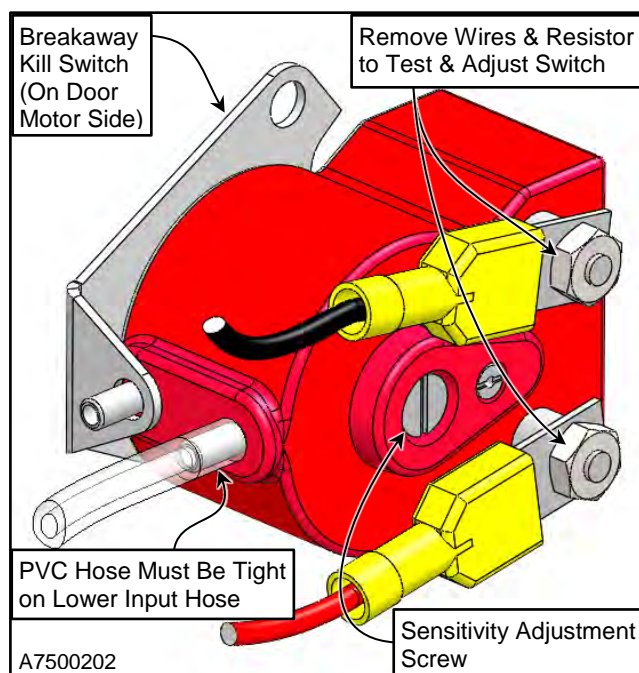

Figure 43
1. Remove the wires from the contact terminals and attach an ohmmeter across the two terminals. (See Figure 43)